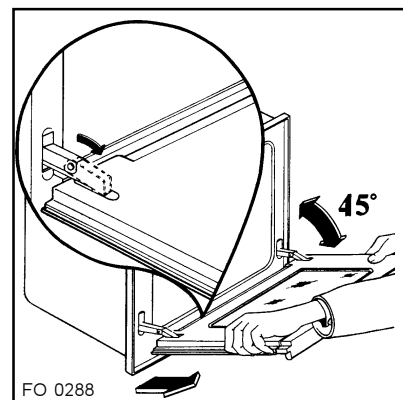

Fig. 9 FO 0288
- find the hinges linking the door to the oven (fig. 9);
- unlock and turn the small levers located on the two hinges (fig. 9);
- gently pull the oven door off its site (fig. 9);